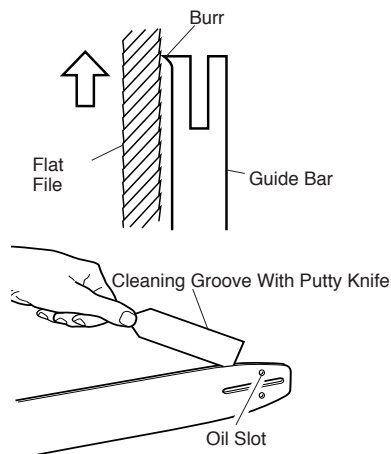

Figure 21 - Guide Bar Maintenance
2. Remove sawdust from guide bar groove periodically. Use putty knife or wire (see Figure 21).